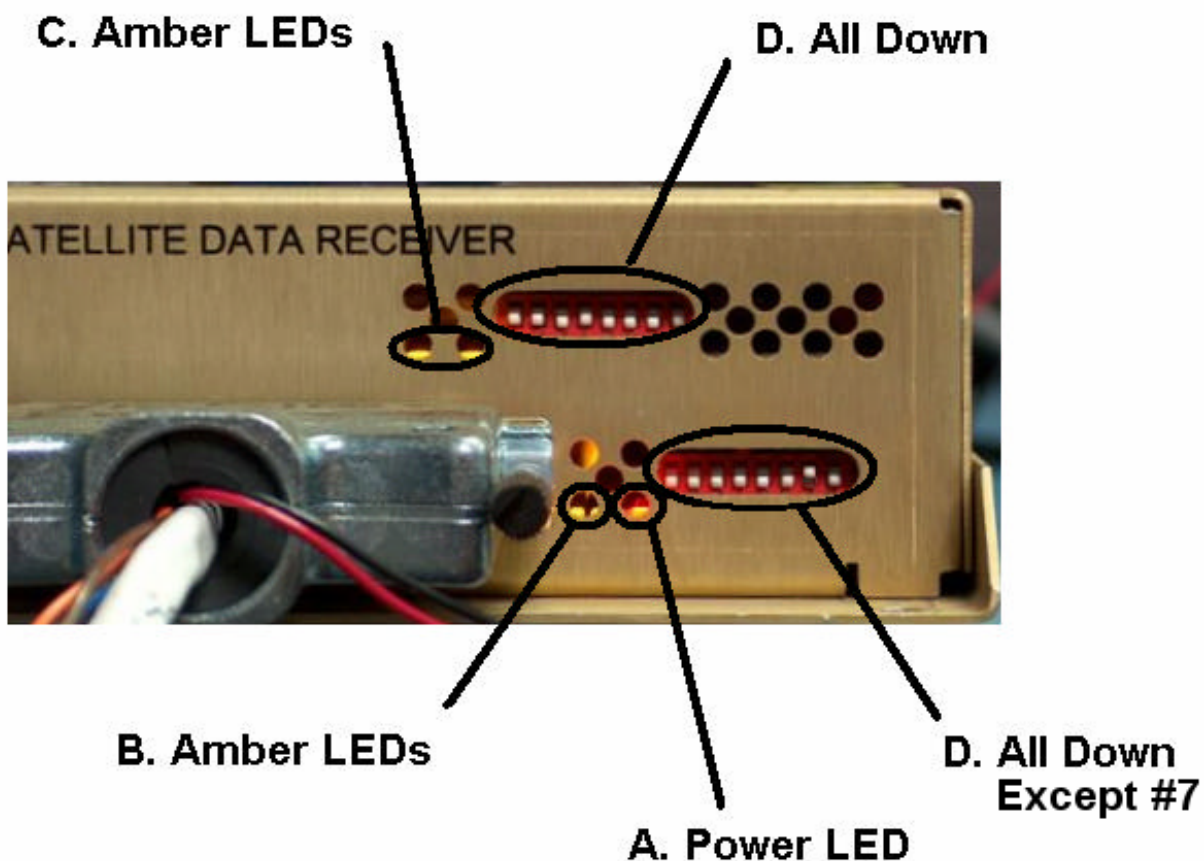

Figure 1, LEDs/DIP Switch setting
- D. Both DIP Switches are all down (00000000) except #7 on the lower switch row which should be up (depicted in Figure 1). This configures 115200 baud rate.